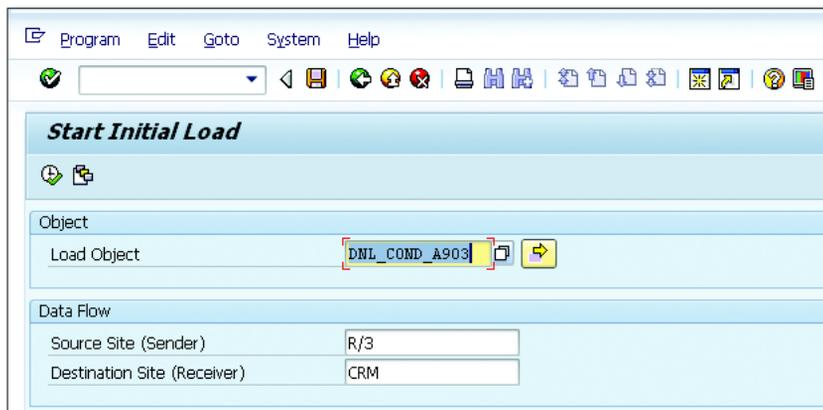

Figure 4.39 Initial Load for the Condition Records from SAP ERP to SAP CRM
8. Run the condition table object to populate the table values from SAP ERP to SAP CRM. This will bring all condition records for table DNL_COND_A903 from SAP ERP to SAP CRM (see Figure 4.39).